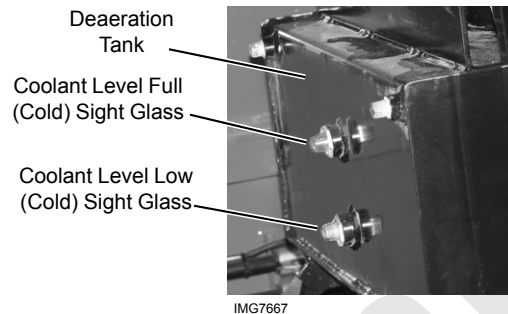

FIGURE 7-7
1. Make sure that the coolant level is at the upper sight glass (Figure 7-7) on the deaeration tank.